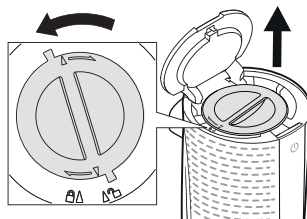

fig. 2
- Open the lid by pushing the lid release button (B).
- Rotate the filter cover counter clockwise until the pointer on the cover matches the symbol  (fig.2).